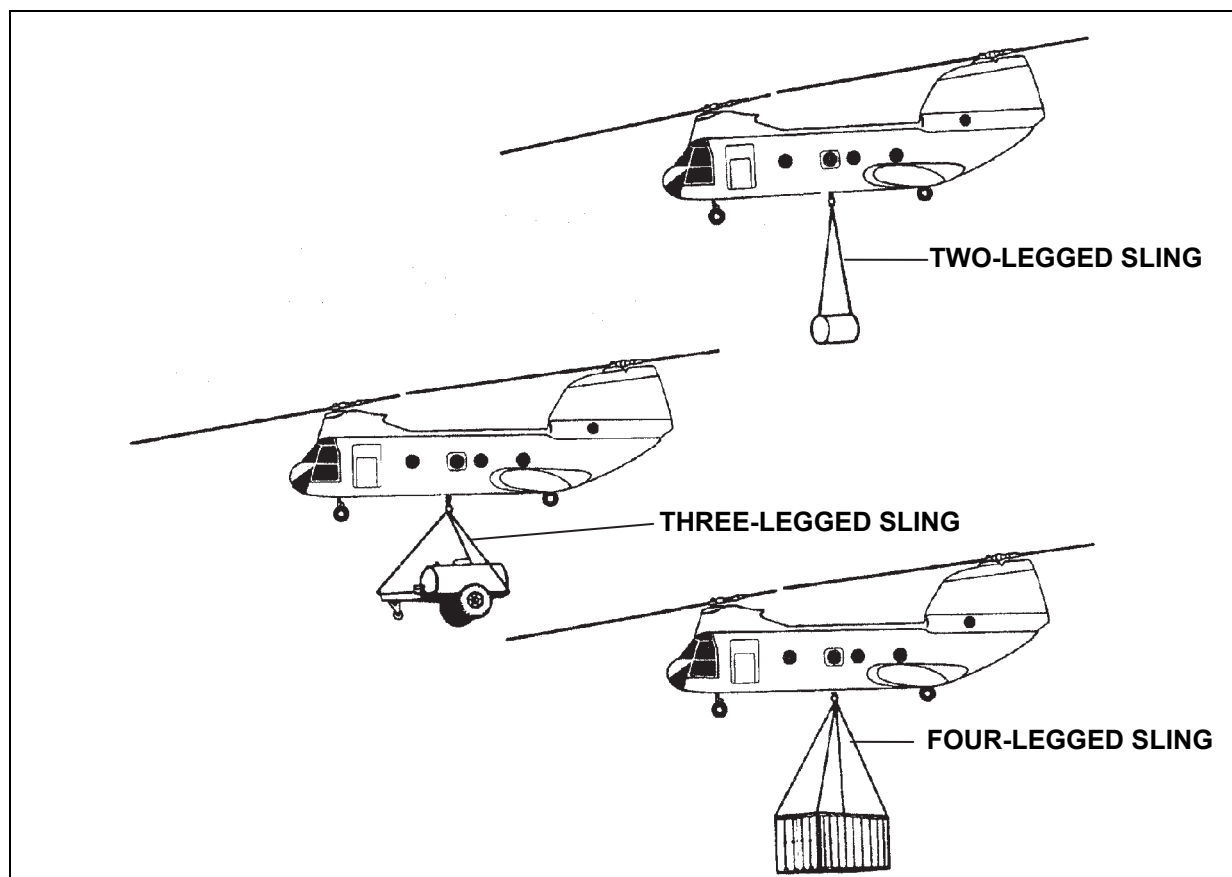

Figure 6-26. Slings with Two, Three, and Four Legs
- Making the Sling Set Fit the Load.** A complete nylon and chain sling consists of four legs. However, legs may be removed to make a two- or three-legged sling (figure 6-26). The safe working capacity of a two-, three-, and four-legged sling set is 11,120, 15,000 and 15,000 pounds respectively. The capacity of the multileg sling set is different from other sling sets because of the sling leg design. The six steps for adding or subtracting a sling leg are as follows: